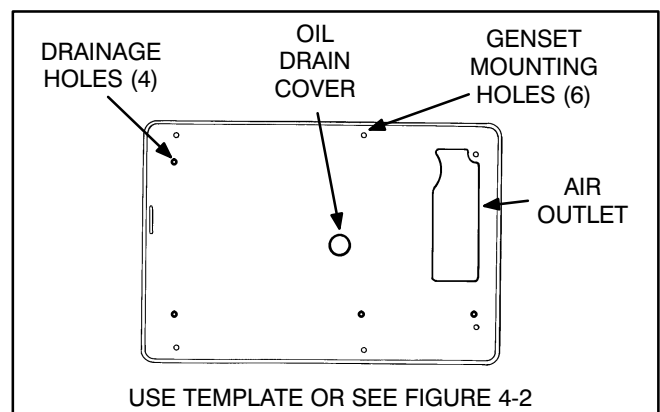

FIGURE 3-4. COMPARTMENT FLOOR TEMPLATE
2. Put holes in the bottom of the compartment for genset mounting, air outlet and oil drain (Figure 3-4). If the bottom of the compartment is wooden, remove the wooden section under compartment and replace it with a sheet metal floor and an adequate steel support frame. (Refer to Onan template number 539-1546).